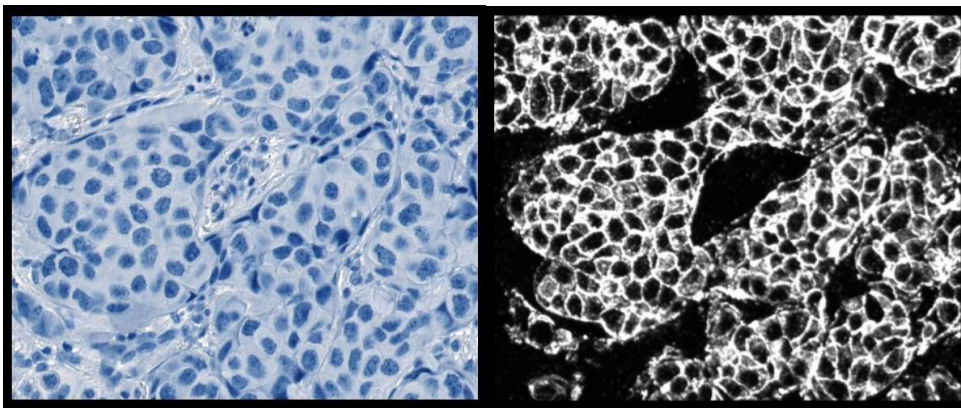

Figure 3-1 Imaging of breast tissue sample in transmitted light and upconversion fluorescence light.
2. Press the Power Button (*Figure 3-1*) and wait for the system to boot up.